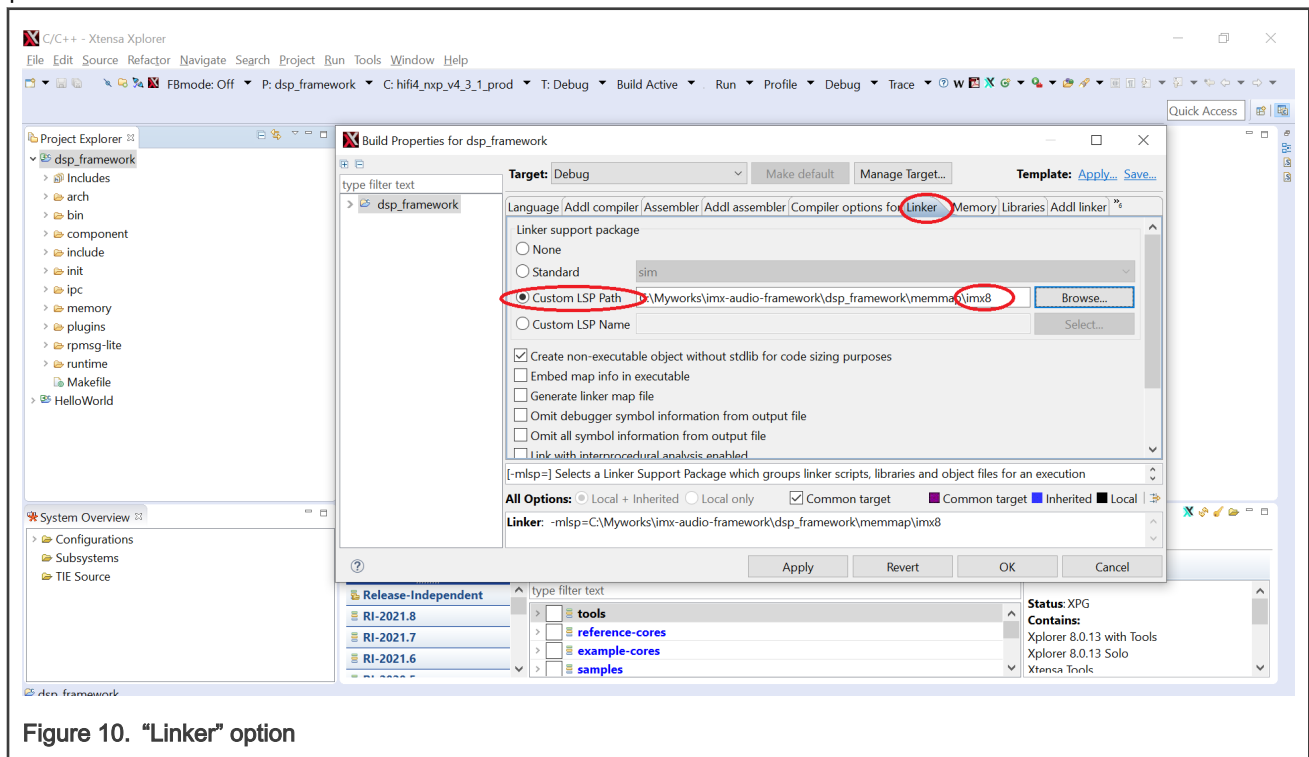

Figure 10. "Linker" option
- Click the "Linker" option and configure the custom LSP path as shown in Figure 10. Click the "OK" button to finish this process.